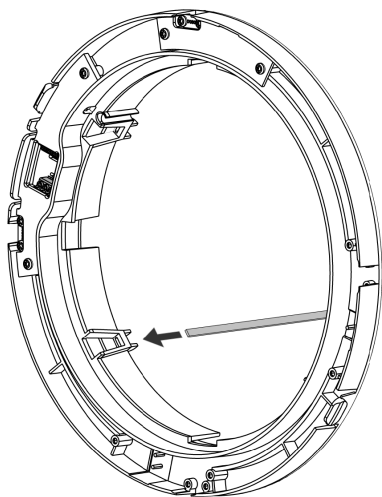

Figure 20 - Strips from the outside hood are guided into the internal wall cover
1. The four strips located on the outside hood are guided through the holes in the internal wall cover, see Figure 20.